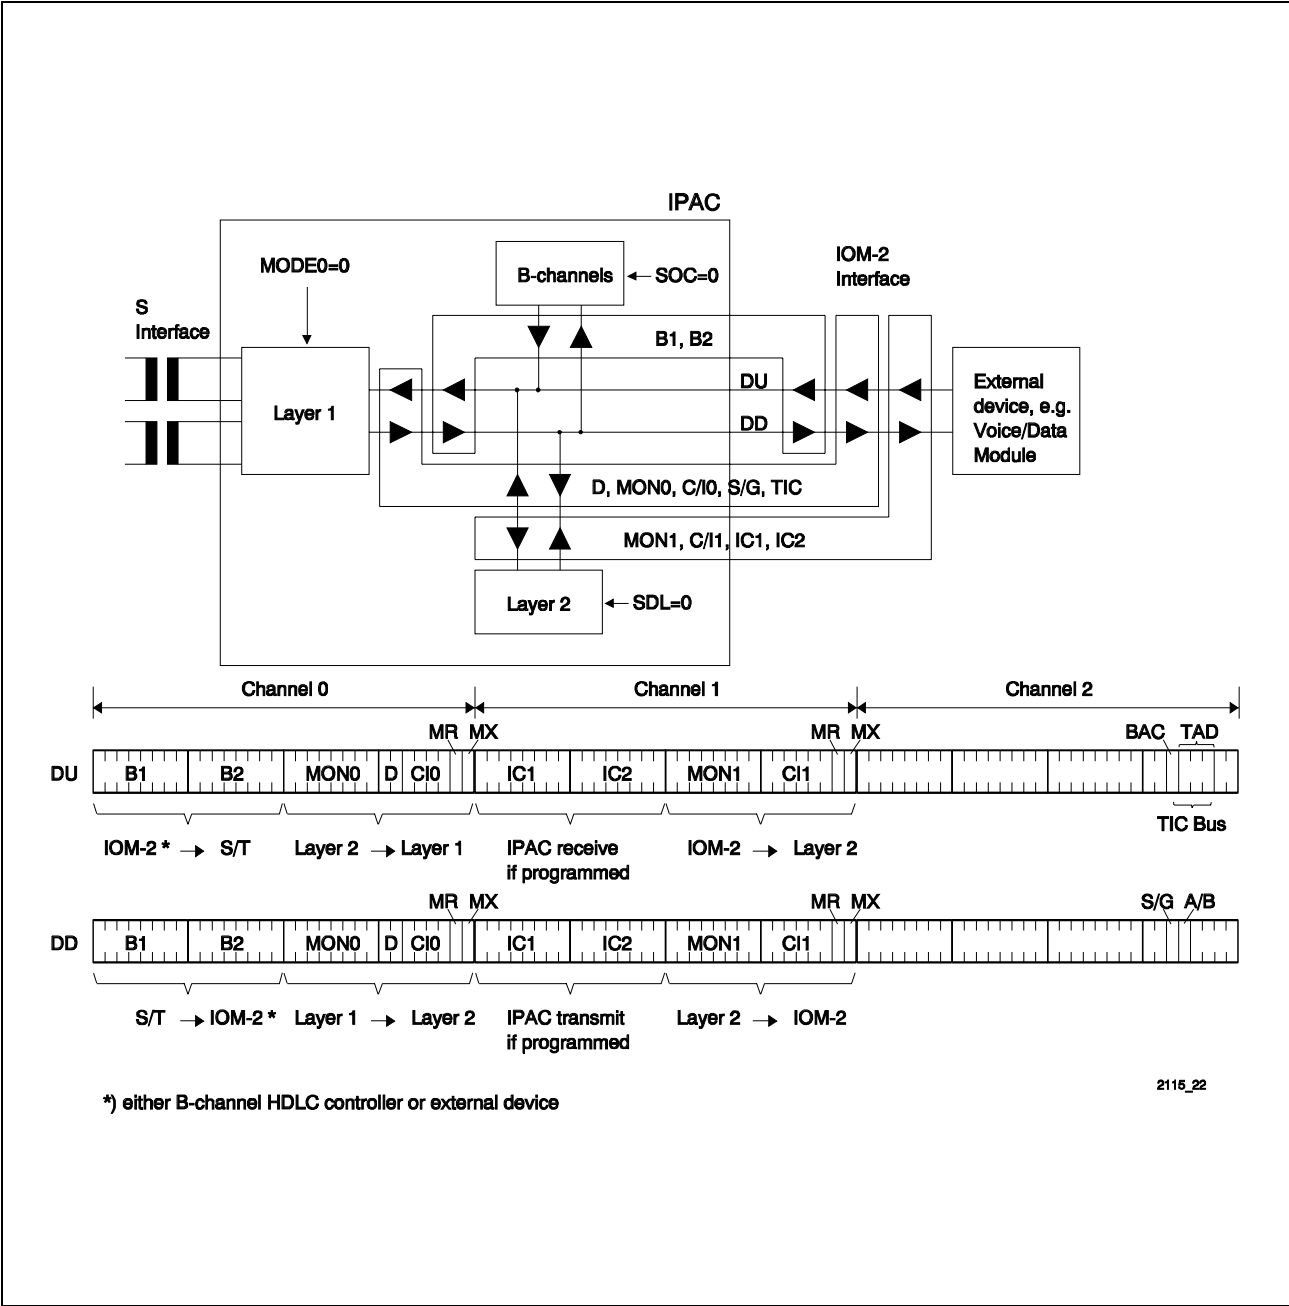

Figure 56 IOM-2 Data Ports DU/DD in Terminal Mode (MODE0=0)
**Figure 56** shows the connection in a multifunctional terminal with the IPAC as a master and an external device (e.g. ICC PEB 2070) as a slave device.